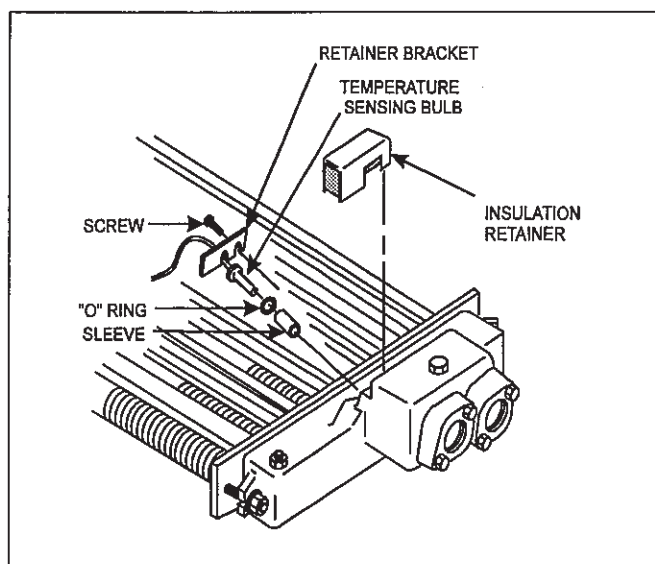

Figure 14. Temperature sensing bulb.
6. Remove the fiberglass insulation and insulation retainer covering header sensors (see Figure 14).
the bulb flange and remove the bulb from the header (see Figure 14). Pull pressure switch tube through vestibule cover hole first, then pull thermostat bulb assembly through same hole.